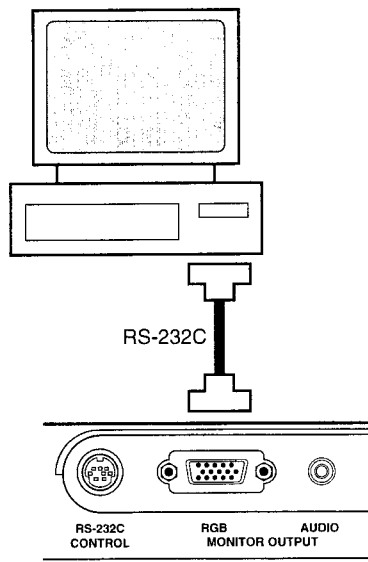

Fig. 1-4-1
- 1) Connect a computer as shown in Fig. 1-4-1, and then perform the adjustment using the adjustment software TLP65CTL5.EXE. (When using a drive C, type C: ¥TLP65CTL5.EXE and press enter key.)